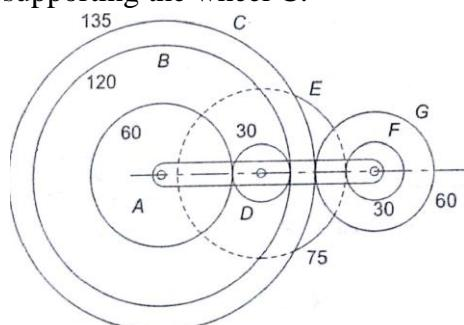

Figure 3
b) Gear Train shown in Fig.3, in which gears D-E and F-G are compound gears. D gears with A and B; E gears with F; and G gears with C. The numbers of teeth on each gear are A=60, B=120, C=135, D=30, E=75, F=30, G=60. If the wheel A is fixed and the arm makes 20 revolutions clockwise, find the revolutions of B and C. **14**